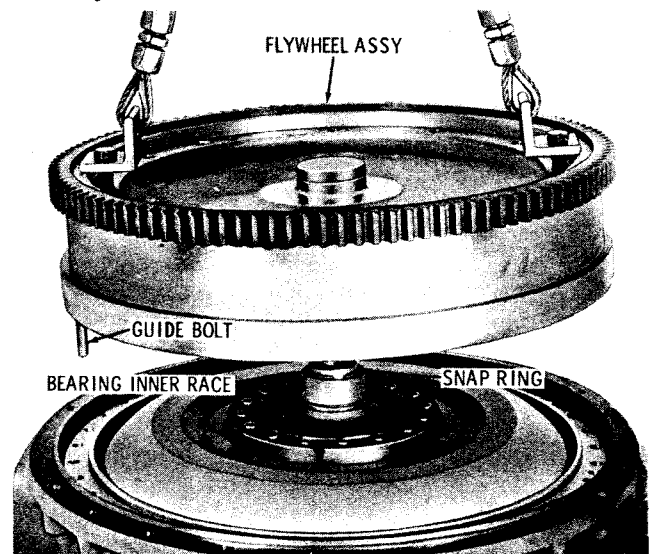

Fig. 7-42. Installing flywheel assembly (direct-mount models)
(23) Install the turbine roller bearing inner race onto the turbine output shaft (fig. 7-42). Retain the race with a snap ring.
(24) On direct-mount models, install a 3/8-24 headless guide bolt into the flywheel (fig. 7-42). Install the flywheel assembly.